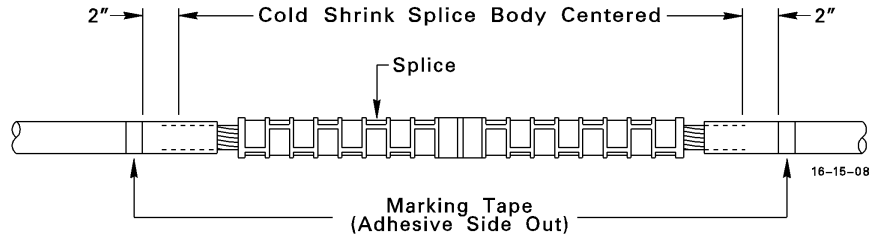

Figure 8
1. **Apply Marker Tape** – Measure cold shrink body length and place marker tapes (adhesive side out) 2 inches away from each end of the centered cold shrink body. Refer to Figure 8 below.
Supersedes 1/06 Issue – Revised Crimping Detail On Figure 8